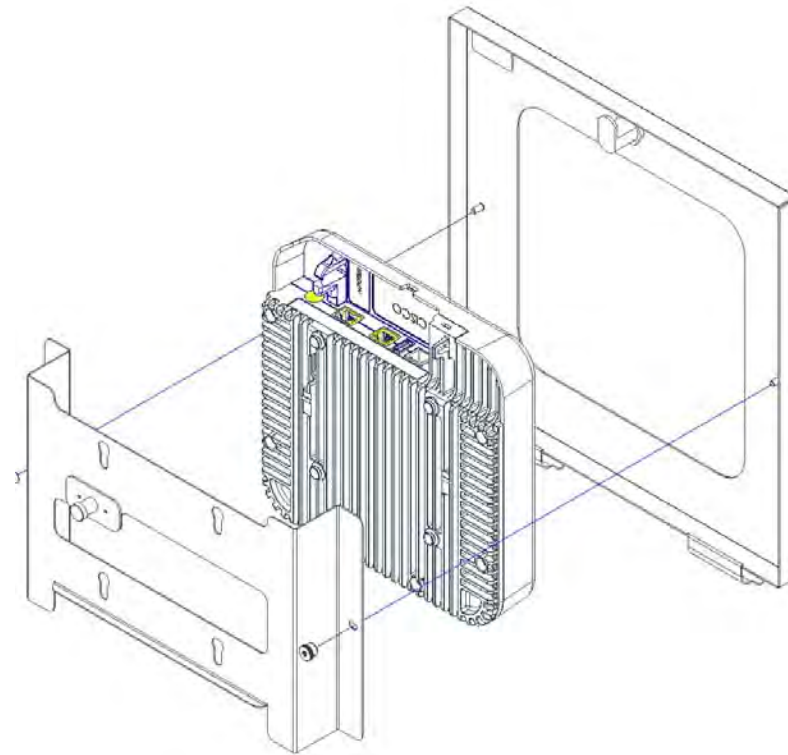

Figure 6
Step 6 – Attach the Cisco 3800 to the Oberon mounting plate by inserting the feet of the access point into the keyhole slots of the Oberon mounting plate and sliding the AP until the plunger locks into place. The access point should be aligned so that the raised flange of the Oberon mounting plate is opposite the Ethernet port of the access point. (Ref. Figure 6).
Step 7 – Once the Cisco mounting plate has been installed, attach the equipment cord to the Cisco AP (Ref. Figure 6).
Step 8 – The door assembly is completed by attaching the previously assembled mounting plate assembly to the enclosure door. Place the slotted holes in the mounting plate over the studs located on the bottom side of the door (NOTE: the mounting plate can be attached to the door in either of two different directions, 1) with the Ethernet ports facing the hinge or 2) with the Ethernet ports facing the lock. Once the mounting plate is positioned, secure it in place by installing the two (2) #8-32 thumb nuts (Ref. Figure 6).
Step 5 – To install the Cisco AP, place the enclosure's door on a flat work surface. Remove the mounting plate from the door by removing the two (2) thumb nuts that attach the mounting plate. Retain the nuts (Ref. Figure 6).